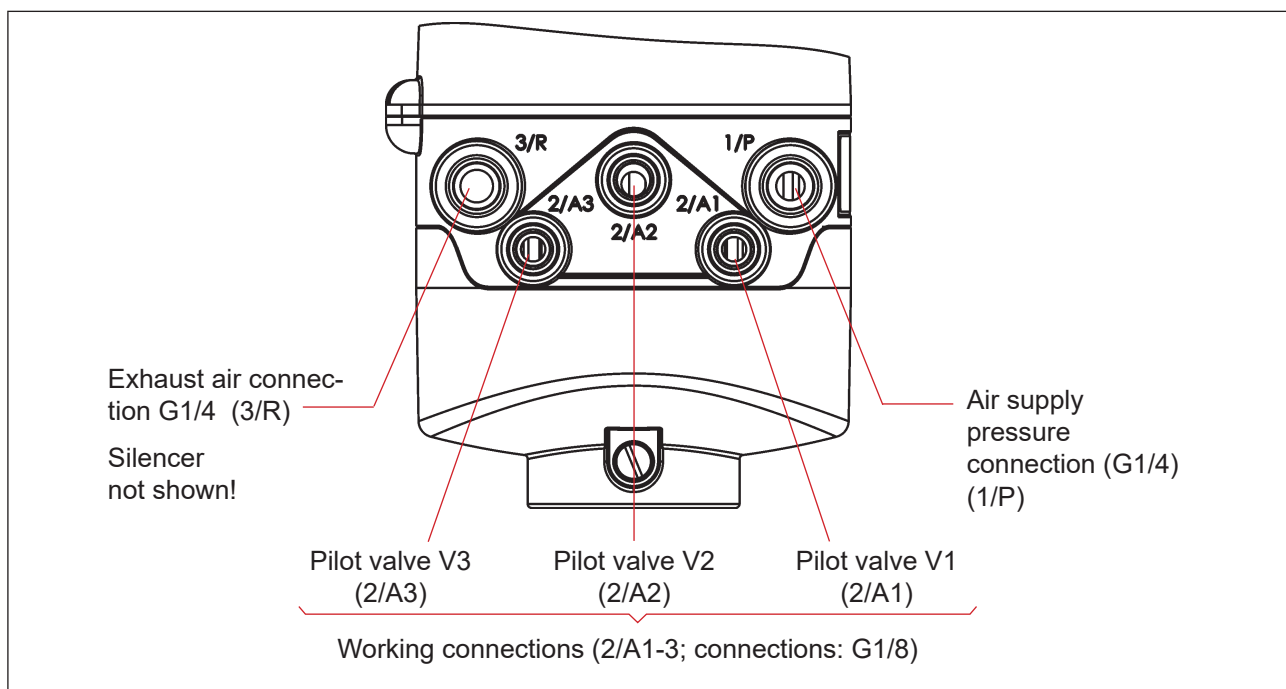

Fig. 17: Pneumatic connections
- A silencer has already been mounted on the exhaust air connection (3/R - see "Fig. 17") in the supplied state. As needed, the silencer can be replaced by an exhaust air hose (e.g. after sci
→ Connect the required working connections **2/A1 to 2/A3** with the corresponding connections on the process valve (according to the number of pilot valves in the device) - compare "Fig. 17".